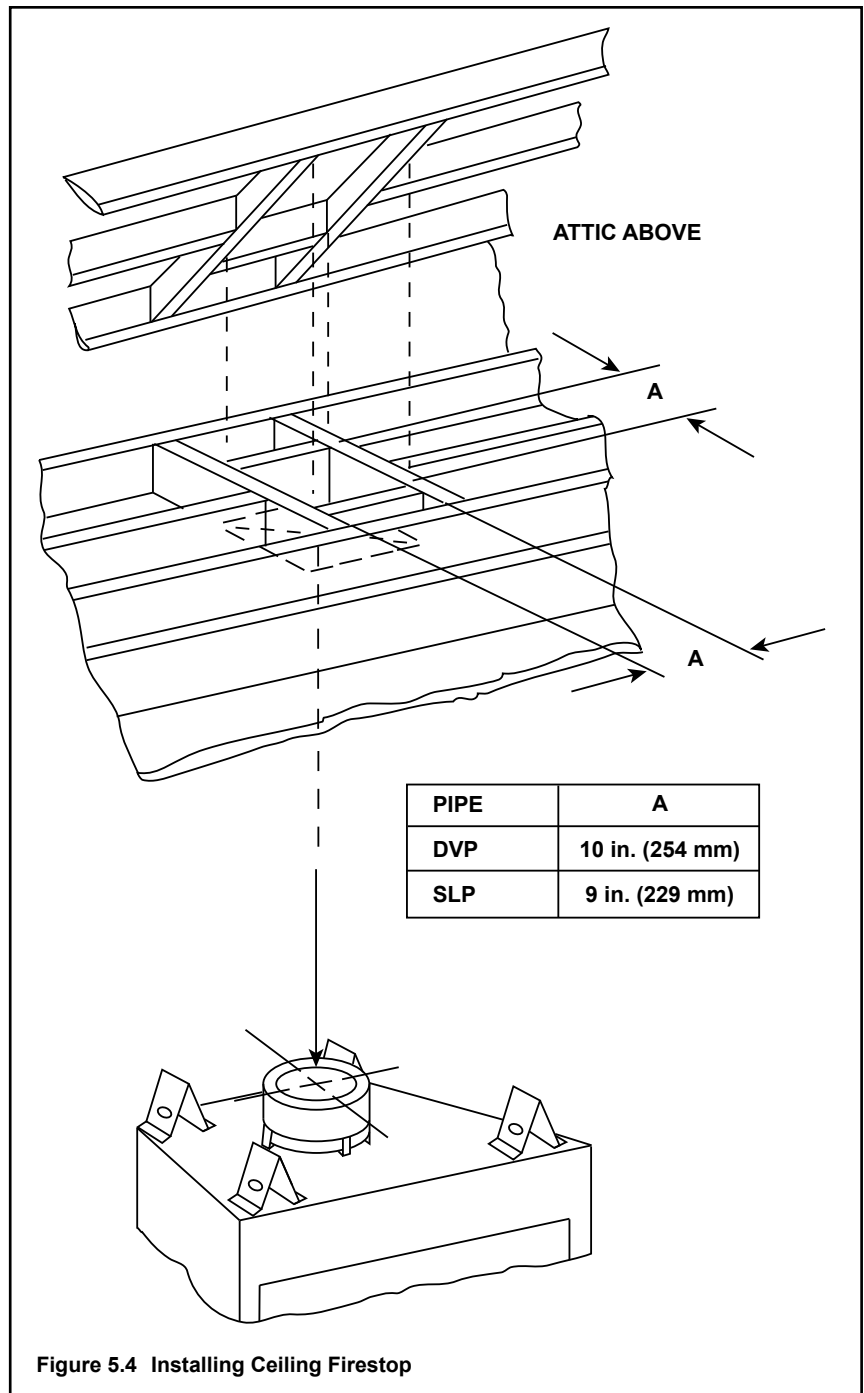

Figure 5.4 Installing Ceiling Firestop
- **DVP pipe only** - Frame an opening 10 in. by 10 in. (254 mm by 254 mm) whenever the vent penetrates a ceiling/floor (see Figure 5.4).
- **SLP pipe only** - Frame opening 9 in. x 9 in. (229 mm x 229 mm) whenever the vent penetrates a ceiling/floor (see Figure 5.4).